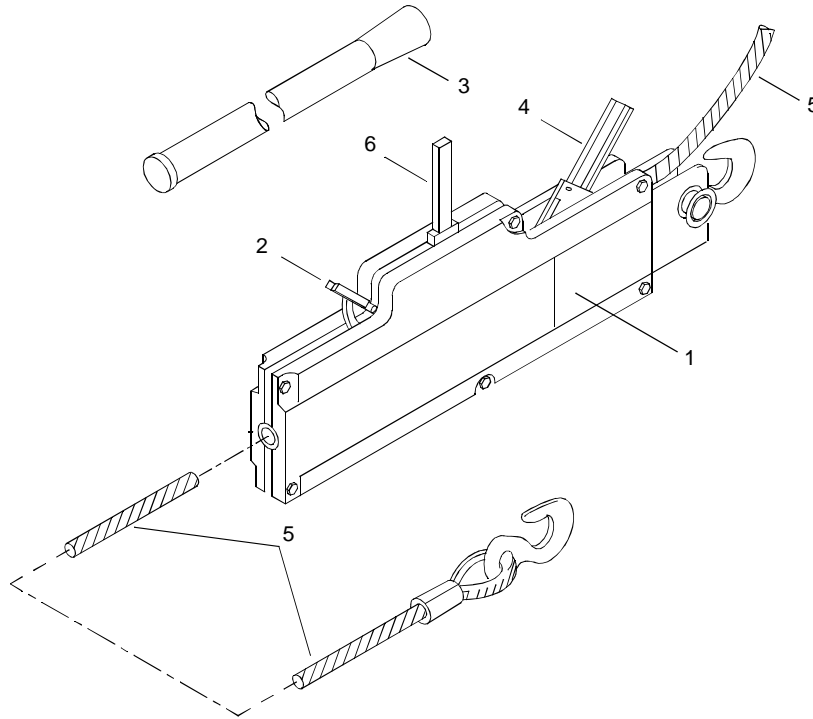
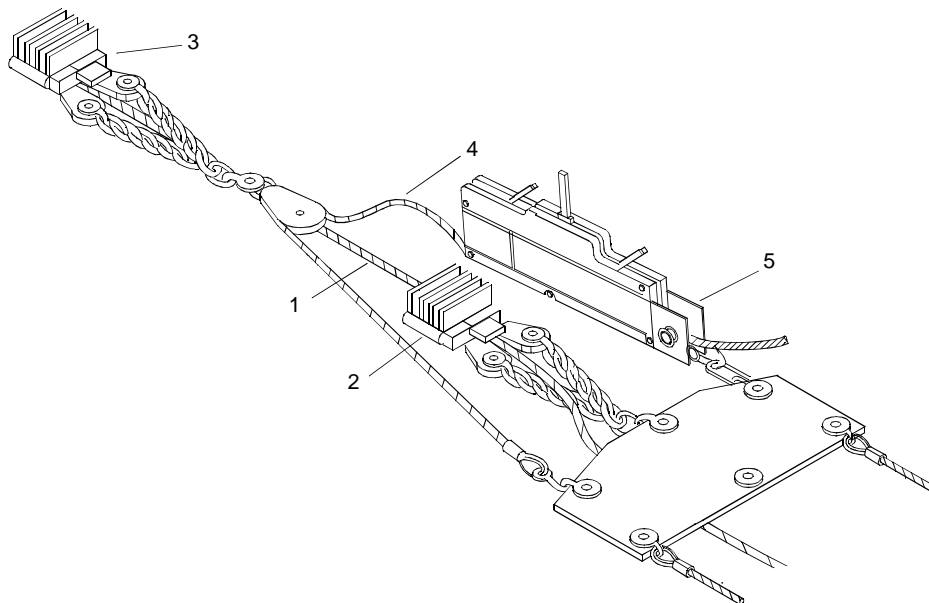

Figure 14. Griphoist
Figure 16. Tensioning Mooring Cable (2)
6. Operate griphoist (figure 14, item 1) to tension mooring cables.
- a. Move wire rope release lever (figure 14, item 2) to the lock position by striking it with a sharp blow of the hand.
- b. Place operating handle (figure 14, item 3) on power stroke lever (figure 14, item 4).
- c. Work operating handle (figure 14, item 3) back and forth to pull hoist cable (figure 14, item 5) through griphoist (figure 14, item 1).
- e. Clamp mooring cable (figure 16, item 1) in second carpenter stop (figure 16, item 2) with no slack in mooring cable (figure 16, item 1) between carpenter stops (figure 16, item 2 and item 3).
- f. Place operating handle (figure 14, item 3) on reversing lever (figure 14, item 6) to pay out hoist cable (figure 16, item 4) by working back and forth until second carpenter stop (figure 16, item 2) is holding mooring cable (figure 16, item 1).
- g. Unlock griphoist (figure 16, item 5), allowing hoist cable (figure 16, item 4) to run free.
- h. Release mooring cable (figure 16, item 1) from first carpenter stop (figure 16, item 3) and relocate down mooring cable (figure 16, item 1) as far as hoist cable (figure 16, item 4) will allow.
- i. Clamp first carpenter stop (figure 16, item 3) to mooring cable (figure 16, item 1) and reinsert hoist cable (figure 16, item 4) in griphoist (figure 16, item 5), if required.
- j. Repeat step a through step i until mooring cable (figure 16, item 1) clears water and anchors are firmly in place.